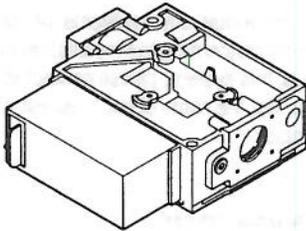

Figure 34
Step 5. Electronic Appliances – Remove ten (10) screws and remove the complete spud assembly.
Step 6. Electronic Appliances – Mark the wires to the gas valve. Then remove and replace the gas valve (Figure 34).